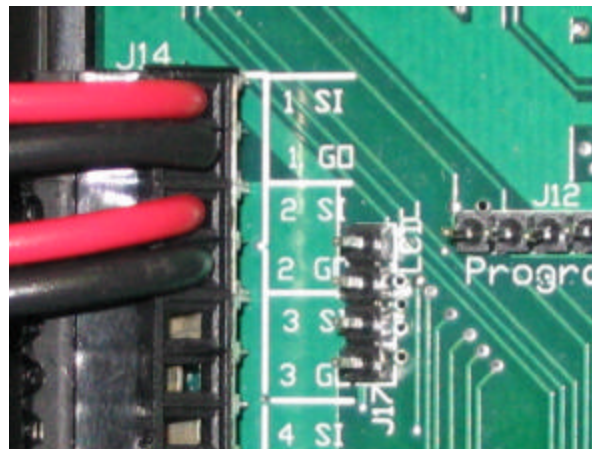

Figure 26
Connect the ribbon cable from the adjacent module to the J15 connector and if there is another module connect it to the J16 connector. The terminal blocks J13 and J14 can take up to 10 switch signal inputs. If the signal to be monitored is coming from a Pressure Vacuum or Dual Module connect the Alarm or Normal signal output from that module to one of the signal input (SI) positions and the ground in from that module to the ground output (GI) position. (See Figure 26.)